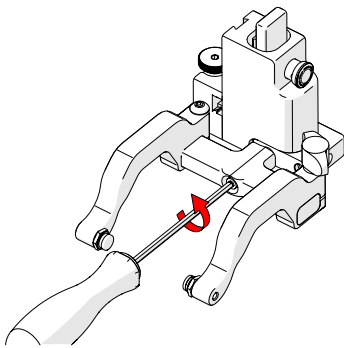

Fig. 162 - Remove yoke
1. Using the supplied 3 mm driver, unscrew the yoke (Fig. 162).